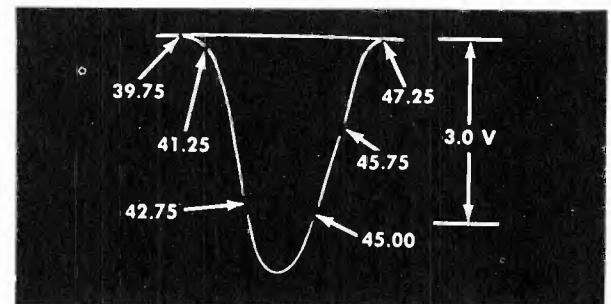

Fig. 4 Overall IF Response Curve.
6. Disconnect the jumper between test point "E" and chassis. Apply negative 6 or 7 volts bias to test point "E," positive lead to chassis ground. Adjust sweep generator for 3 volts peak to peak output as shown on the oscilloscope (output of Picture Detector). Alternately, adjust the 2nd, 3rd and 1st IF coils and the converter (mixer) plate coil until an overall response similar to Fig. 4 is obtained.